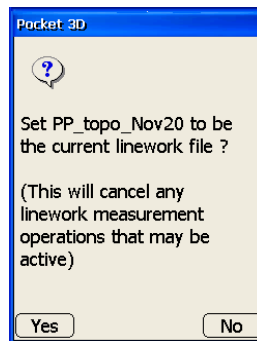

Figure 2-39. Save Linework File
- At the **verification** screen, press **Yes** to set this as the current Linework file (Figure 2-39).